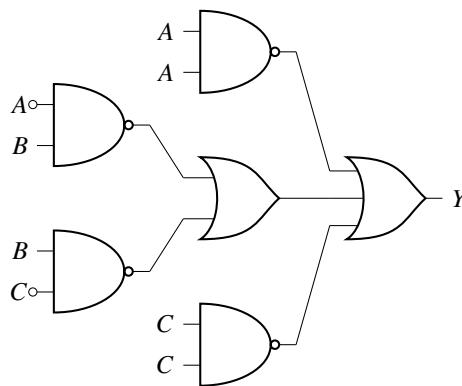

Fig. 3.5
13. Obtain the Boolean Expression for the logic circuit shown below in Fig. 3.5.